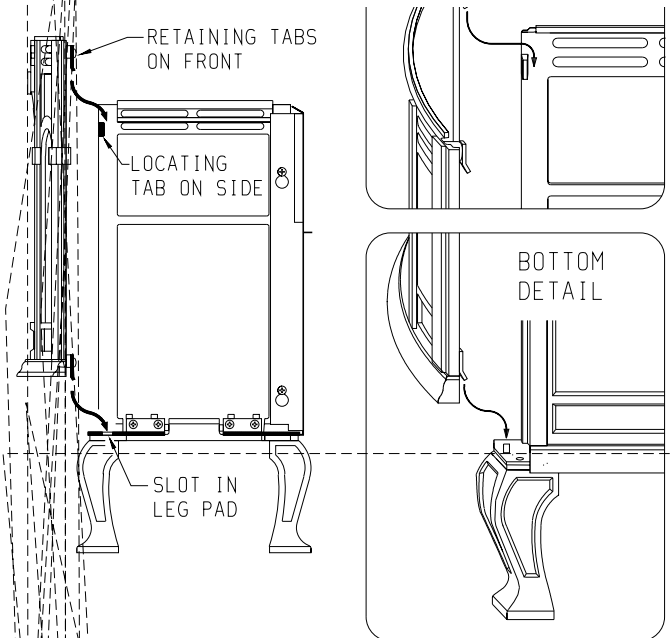

Figure 10
- D. Assembly of front by attaching retaining tabs and placing front on unit (Figure 10).
10. Attach the (4) 1-1/4" x 1/2" retaining tabs to the casing front with (4) 3/8" bolts. The retaining tabs should be positioned downward.
11. Refer to Figure 10, attach casing front to outer casing by using the (4) retaining tabs on the casing front. The (2) top, retaining tabs on the casing front will be placed behind the (2) top, locator tabs on the front of the casing sides. The (2) bottom, retaining tabs will be inserted into the (2) 9/16" slots on the front, leg pads. Place the top, retaining tabs behind the top, locator tabs as you pivot inward the bottom of the casing front in order to insert the bottom, retaining tabs into the slots.